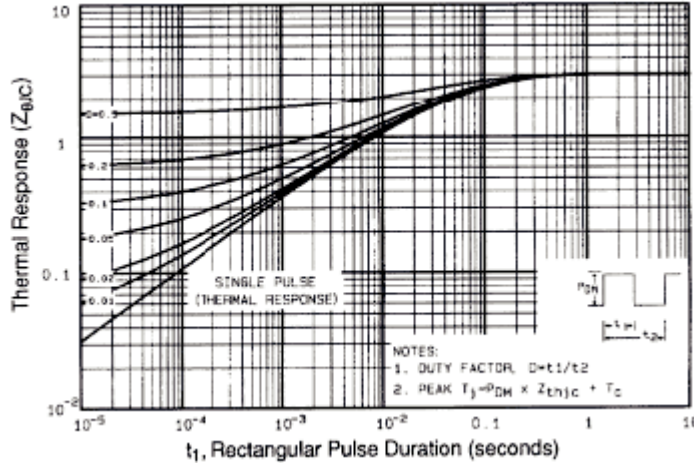

Fig. 12 - Maximum Effective Transient Thermal Impedance, Junction-to-Case
- a. Repetitive rating; pulse width limited by maximum junction temperature (see fig. 12).